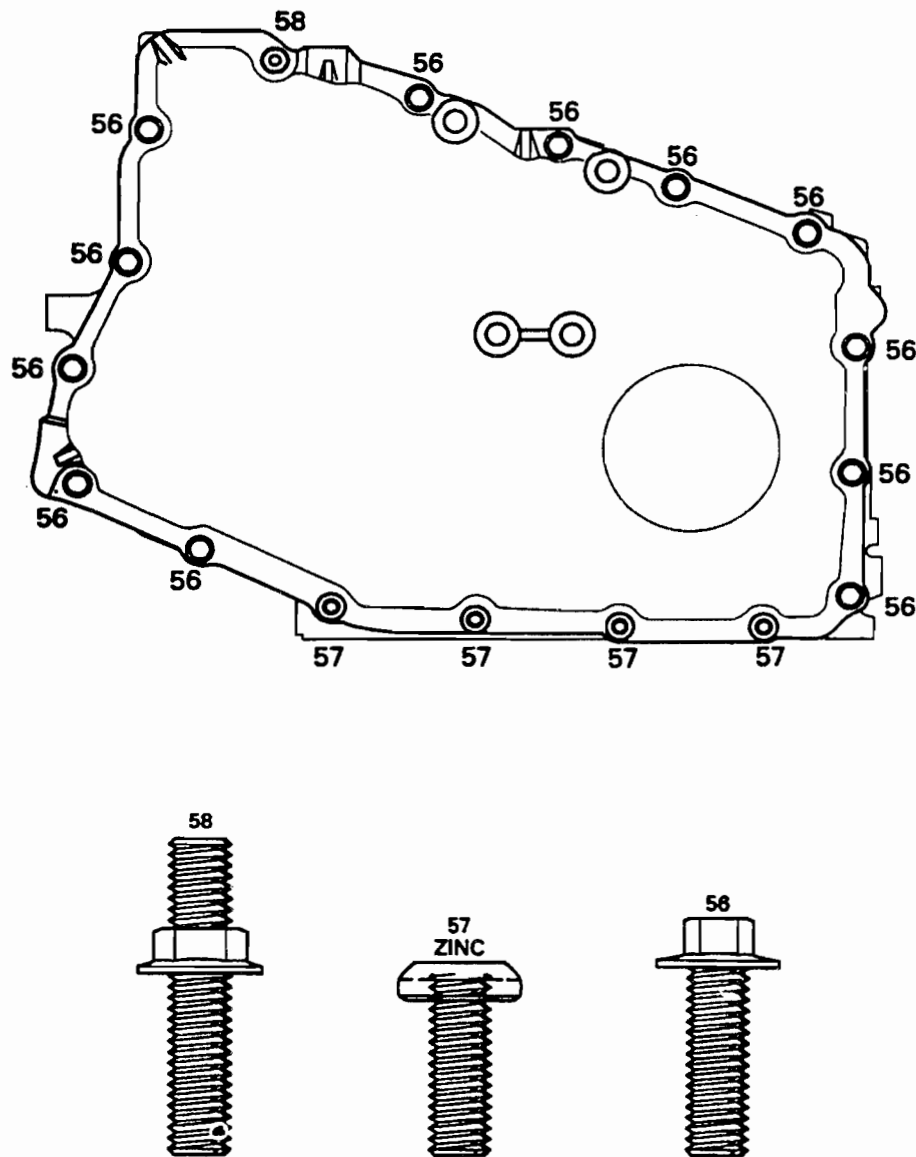

Figure 56
- (1) STRUCTURAL SIDE COVER - Now made of cast aluminum with drilled and tapped bosses for mounting into the vehicle (See Figure 54). There are currently two different structural side covers used in different car bodies, one with four cast bosses (See Figure 56), and one with six cast bosses (See Figure 57).
- (4) SIDE COVER RETAINING BOLTS - Have all been changed to accommodate the new structural side cover. There are currently three~different types of the retaining bolts used per vehicle, and are shown in Figures 56 and 57, along with their proper locations. Refer to Figures 56 and 57, depending on the model you are working on. Refer to Figure 58 for the stamped steel cover.
The Structural Side Covers MUST be used on the 1994 models that are shown in Figures 56 and 57.